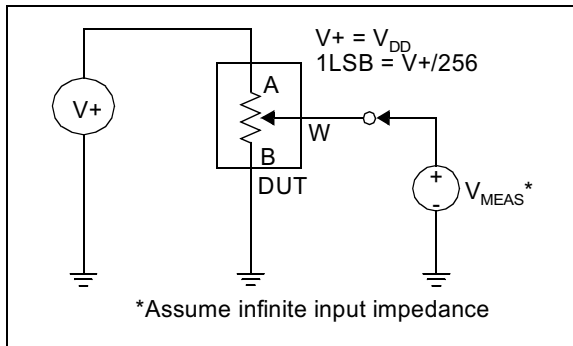

Figure 2-25: Potentiometer Divider Non-Linearity Error Test Circuit (DNL, INL)
- See Figure 2-25 for test circuit.